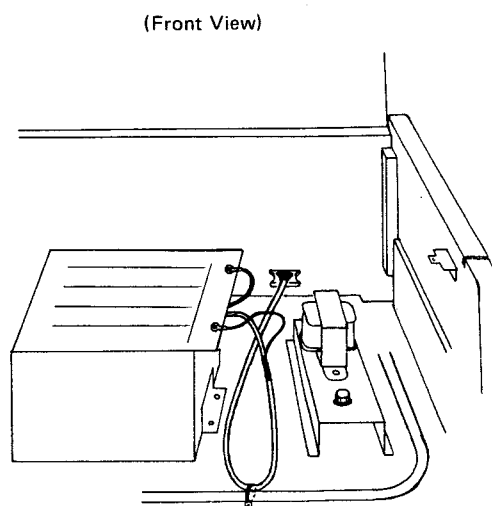

Fig. 4
7. Route the 16 pin shielded cable assembly on the organ shelf as shown in figure 4.
13. Tie the 16 pin shielded cable as shown in figure 4, using the supplied wire tie.